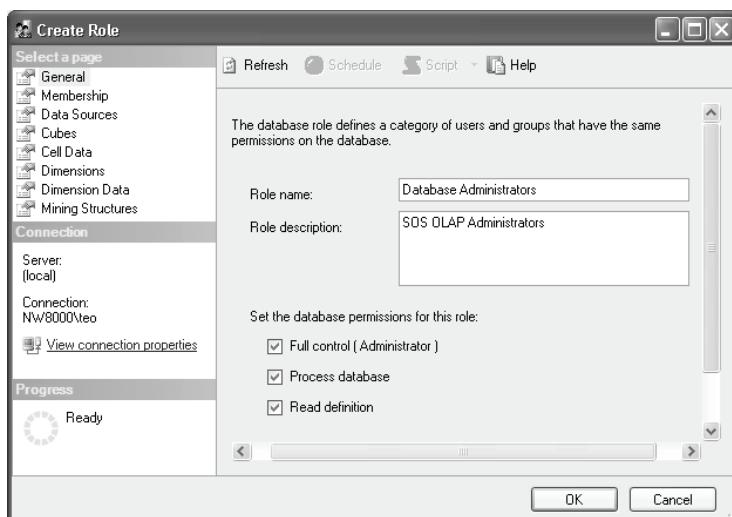

Figure 16.8 The Database-Permission object includes Administer, Process, ReadDefinition, and Access Read (implicit) access rights.
- Expand the SOS OLAP database folder. Right-click on the Roles folder and choose *New Role* to bring the Create Role dialog (Figure 16.8).